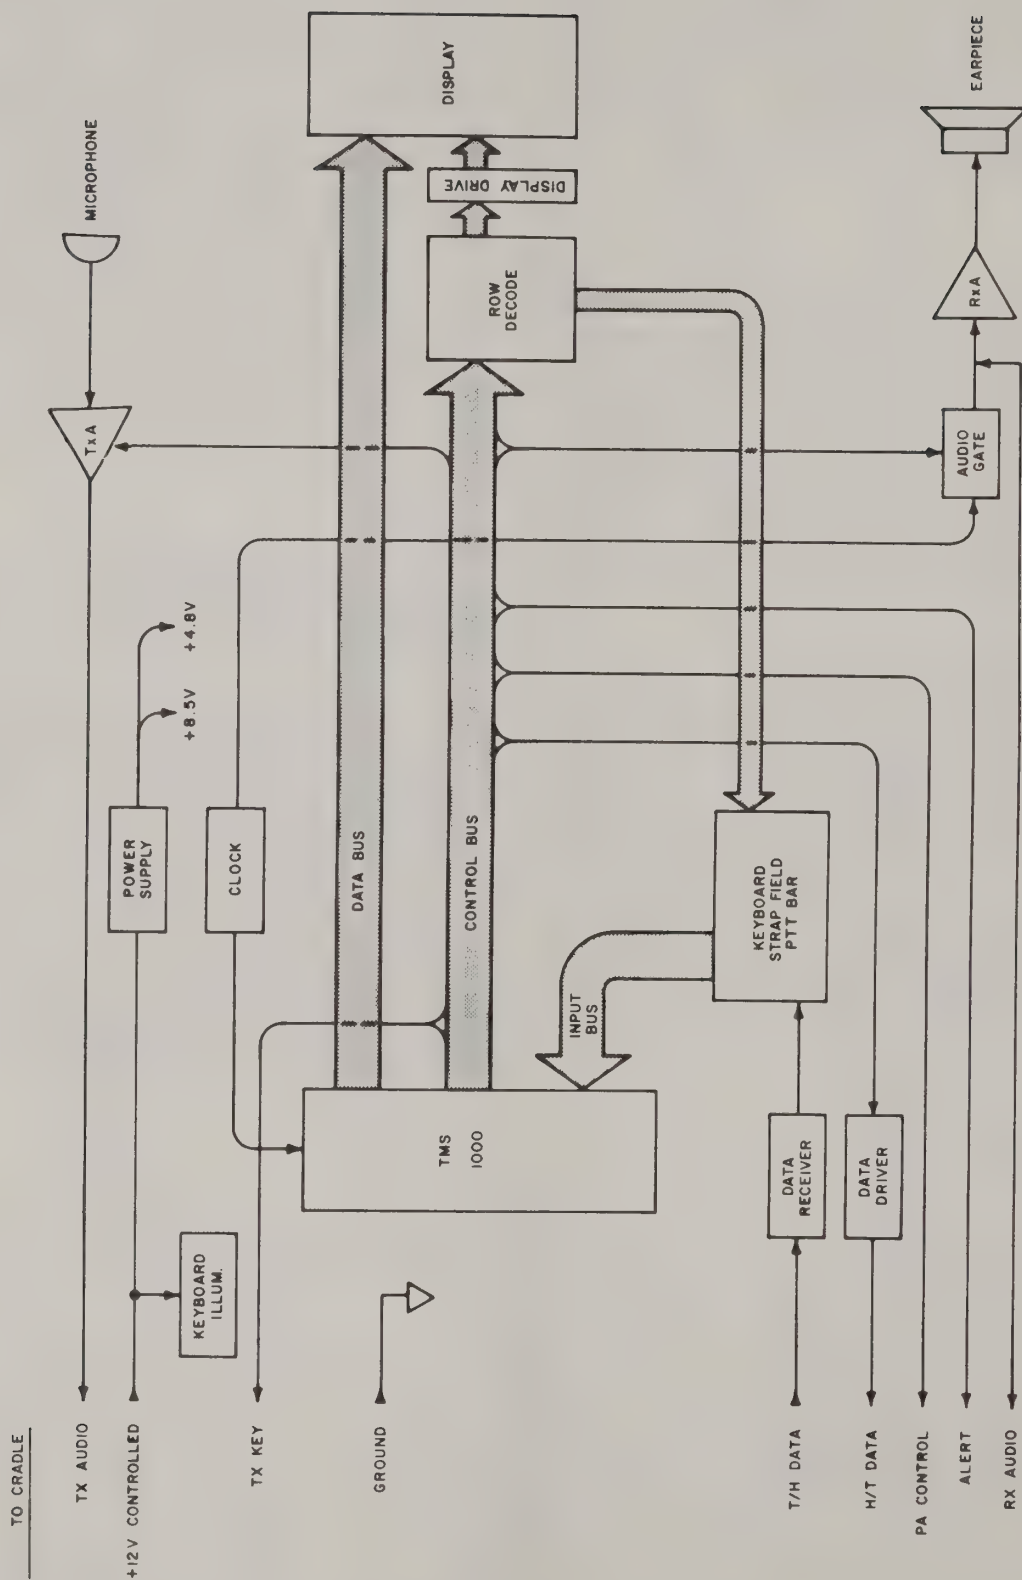

Figure 13. Functional Block Diagram, Handset Logic
4.15 Refer to the Handset Block Diagram, figure 13 and the Handset Schematic Diagram, figure 21. Table 3 lists the Handset electrical specifications. Power at +8.5V is derived from +12V supply by means of three-terminal voltage regulator U7. This powers all the active circuits in the Handset. The nominal +4V supply, derived from voltage divider R22 and R33 across the 8.5V supply, is used to bias operational amplifiers U4A and U4B and emitter follower Q4.